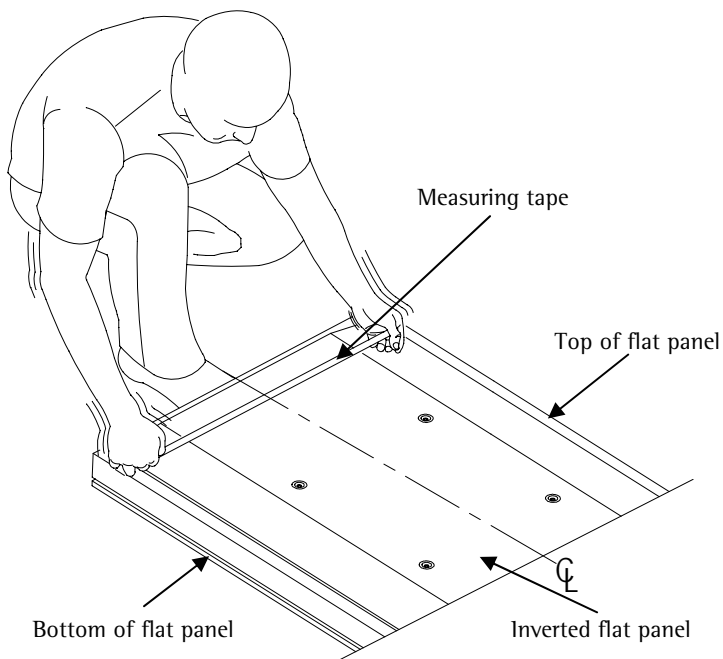

Figure 1
1. Once the flat panel is inverted, use a measuring tape to find the center of your flat panel measuring from outside to outside of the chassis (Figure 1).